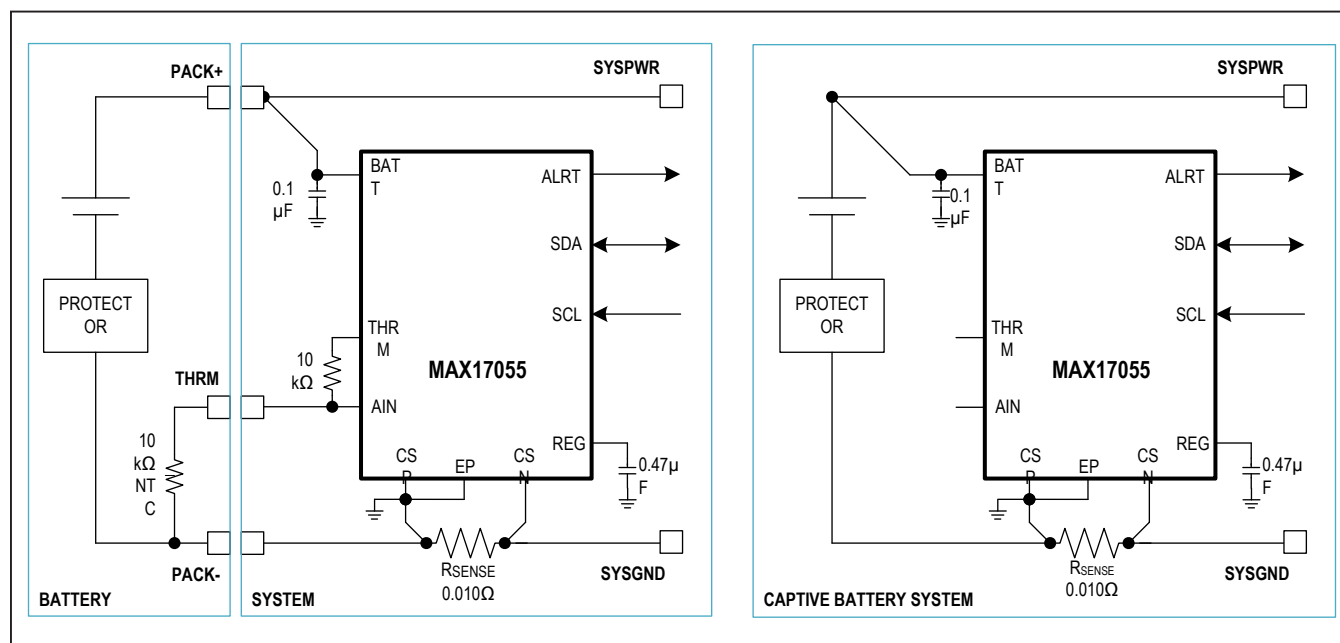

Figure 1. Typical Application Schematics
Figure 1 shows two application circuits. One where the MAX17055 is located in a system that has a removable battery pack and the other where the MAX17055 is located in a system with a captive battery. In both cases, the IC is mounted outside of the protector circuit to allow communication to the pack even when the protection FETs are disabled. Take care to avoid exceeding the maximum operating voltage on any pin under fault conditions. In the removable battery system, temperature readings are made using an external thermistor divider network. In the captive pack system, temperature measurements are made internal to the IC saving the cost and size of two components. System current is measured using an external sense resistor connected between the CSP and CSN pins. System voltage measurements are made between the BATT and CSP pins. Keep the BATT and REG bypass capacitor loop areas as small as possible by connecting them directly to CSP. Note that when using the TDFN package option connect the exposed pad (EP) directly to CSP.